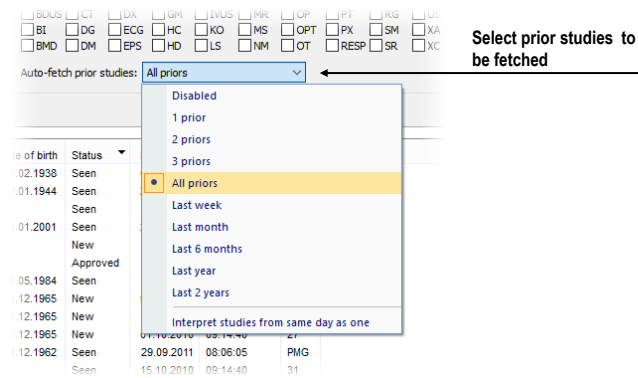

Figure 129 – Specifying which prior studies should be received
4. Set the parameters of the prior studies filter (see Figure 129), which defines the group of automatically added prior studies of the selected study in the worklist.